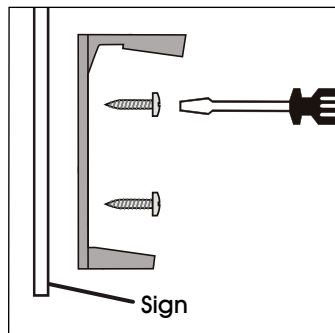

Figure 2
4. Position sign and dispenser mounting bracket (longer holder at the top) over holes in wall and fasten with two slotted screws. (See Figure 2)